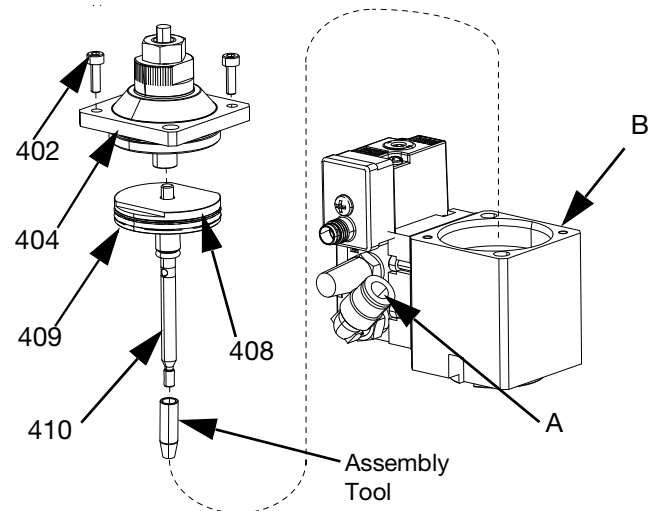

FIG. 23
4. To assemble the Air Section (B) on valves with snuff-back tip assemblies:
- a. Replace the piston o-ring (408) if it is scratched, cut, or worn. See FIG. 23
- b. Apply the supplied blue anaerobic adhesive on the piston rod threads (410).
- c. Thread the piston rod (410) into the piston (409).
- d. Place the piston flats (409) in a vise. Place an Allen key into the hole in the piston rod (410). Torque to 8-10 in-lbs (0.9-1.1 N•m). Place nut (417) on piston rod and torque to 24-36 in - lbs (2.7 - 4.1 N•m).
- e. Insert the piston assembly with the assembly tool installed through the o-ring at the bottom of the Air Section (B).